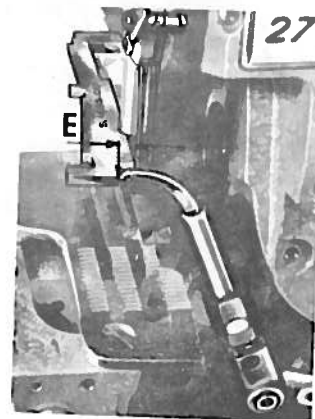
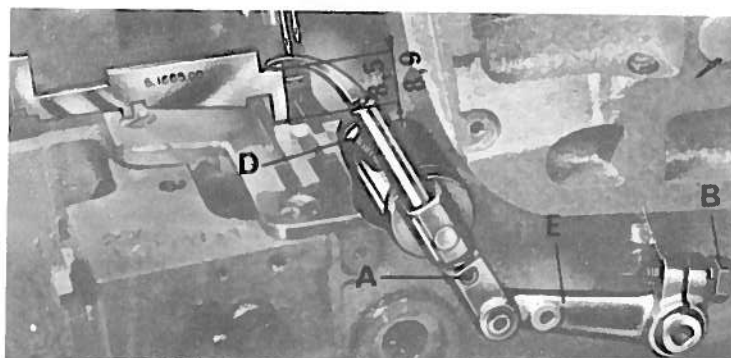

fig. 7
fig. 9
**NOTE** - To obtain the figure of  $11/32'' - 23/64''$  in fig. 9, it is necessary to move lever 'E' up or down, at the same time remembering that by doing this the distances in figs 7 and 8 will increase or decrease.